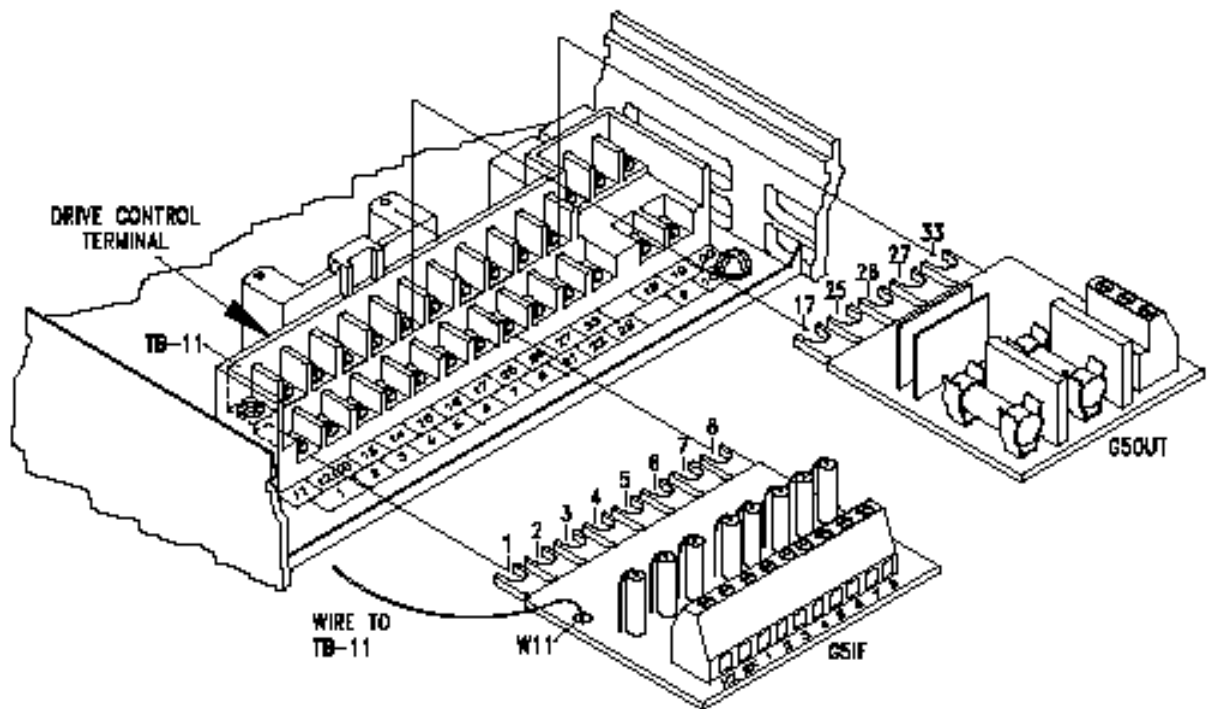

Figure 3-24: Interface Cards
- Install G5OUT card to the drive as indicated in Figure 3-24 “Interface Cards” on page 3-30.
5. Connect the G5IF common lead (blue wire W11) to Terminal 11 on the drive control terminal. Refer to Figure 3-24 “Interface Cards” on page 3-30.
- Reattach the G5IF card to the lower-level control board Terminals 1 through 8. (Refer to Figure 3-24 "Interface Cards" on page 3-30.)
- Reattach the G5OUT card to top-level control board Terminals 17, 25, 26, 27, and 33. (Refer to Figure 3-24 "Interface Cards" on page 3-30.)